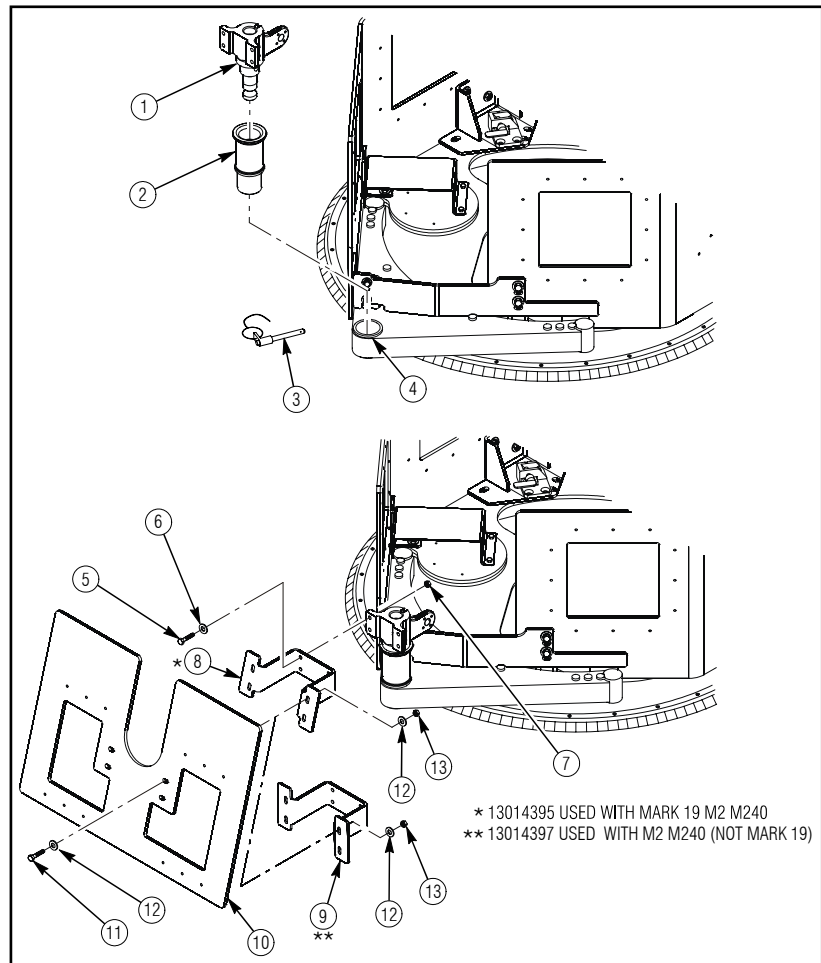

Figure 14
- a. Insert 13014377 bearing sleeve (2) into bearing sleeve hole (4) on turret and secure with locking pin (3) as shown in figure 14.
- e. Insert 13014407 pintle adapter assembly (1) in bearing sleeve (2) as shown in figure 14.
- f. Attach 13014395 front spacer (8) to the pintle adapter assembly (1) using four 92620A628 hex bolts (5), four MS27183-14 washers (6) and four MS51943-35 locknuts (7) as shown in figure 14. Tighten hex bolts (5) to 37 lb-ft (50 N·m).
- g. Attach 13014394 front shield (10) to 13014395 (used with Mark 19 M2 M240) front spacer (8), or front spacer (9) 13014397 (used with M2 M240, not Mark 19) using four 92620A628 hex bolts (11), eight MS27183-14 washers (12) and four MS51943-35 locknuts (13) as shown in figure 14. Tighten hex bolts (11) to 37 lb-ft (50 N·m).